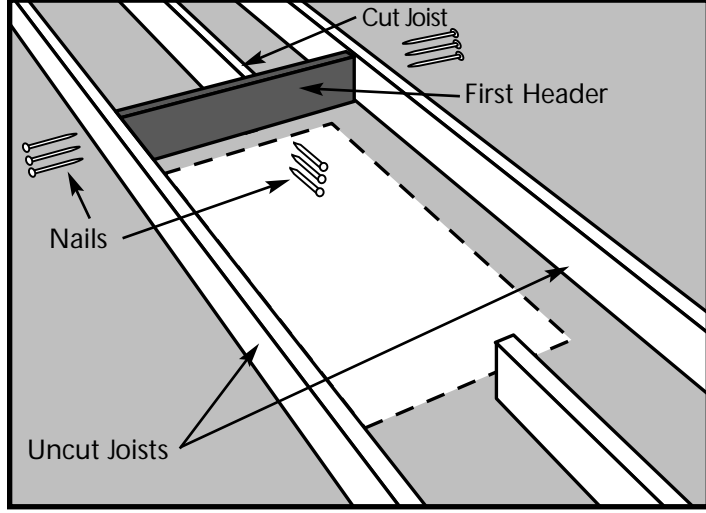

Figure 16
- STEP 3. Place one of these headers against the end of the cut joist(s) as shown in Figure 16. It must fit snugly between the uncut joists. Hammer it into position if necessary; if it is more than 1/16 inch too long, trim it. If it is more than 1/16 inch too short, cut another piece.
- STEP 4. Square the header to the uncut joist and nail the header to the end of the cut joist(s) with 3 nails (16d) as shown in Figure 16.
- STEP 5. Check header for squareness then drive 3 nails (16d) through each joist into each end of the header as shown in Figure 16.